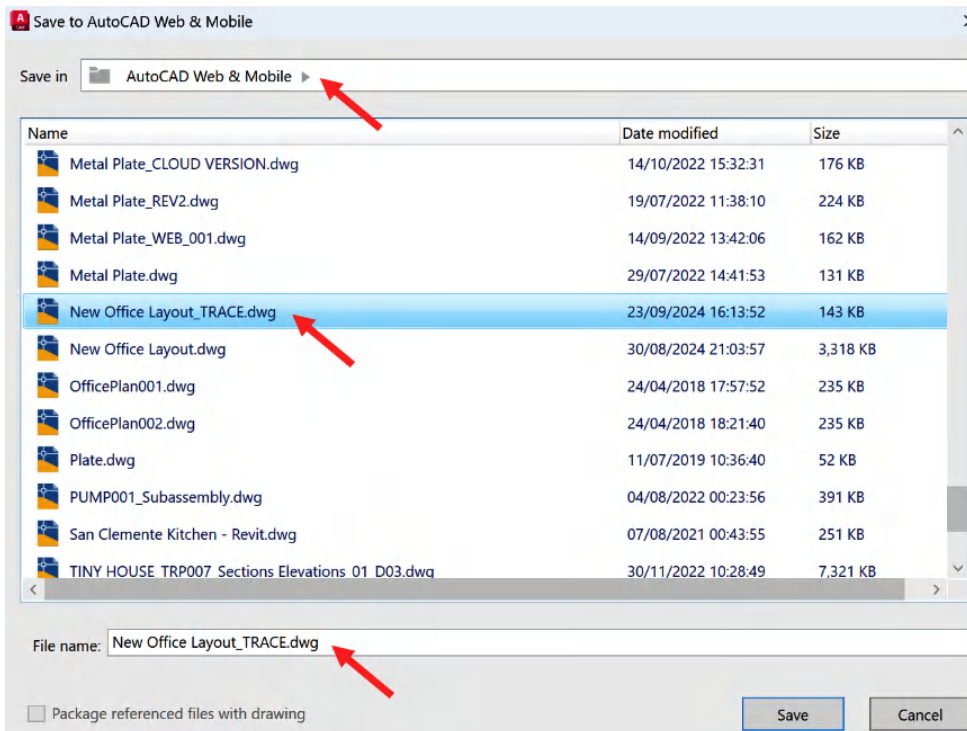

Figure 16.2: The Save to AutoCAD Web & Mobile dialog box
2. After clicking on the icon (and installing the driver), the **Save to AutoCAD Web & Mobile** dialog box will appear, as shown in *Figure 16.2*. The file location is displayed at the top of the dialog box (**AutoCAD Web & Mobile**), and the preferred filename is displayed at the bottom. You will notice that the figure shows the DWG file already saved in the **AutoCAD Web & Mobile** folder. You can overwrite existing DWG files in the cloud, and you will be asked whether you want to replace the file, just like a regular file on your hard drive or a server.